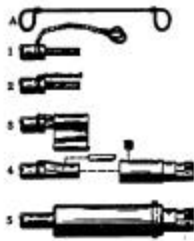

Figure 6-Jack Plug Installation
- (1) Remove 3/4 inch of insulation from one end of the welding cables.
- (2) Clamp the welding cable in a vise with the uninsulated end protruding upward out of the vise approximately 1-3/4 inches.
- (3) Place the steel tie wire (A) (see Figure 6) approximately 1/4 inch (1) from the end of the insulation.
- (5) Make a half turn around the cable bringing the looped ends of the tie wire together.